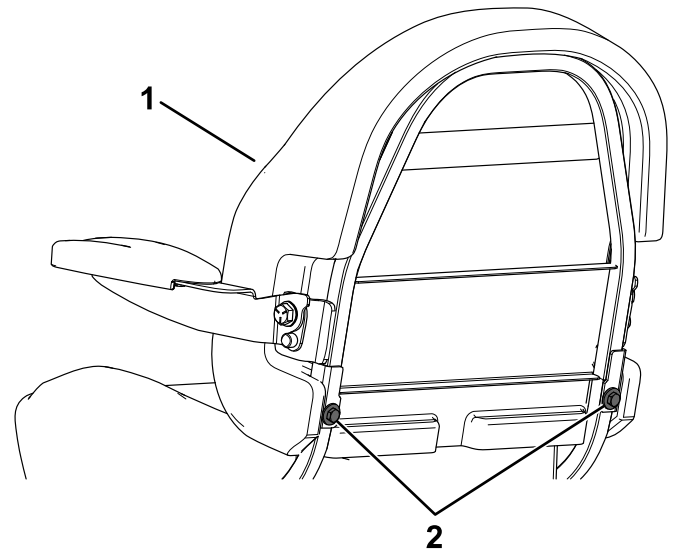

Figure 6
2. Slide the seat back onto the seat-base posts and align the holes (Figure 6).
3. Secure the seat back using 2 bolts (5/16 x 1-1/2 inches) and 2 nuts (5/16 inch); refer to Figure 6. Torque the bolts to 24 N·m (18 ft-lb).